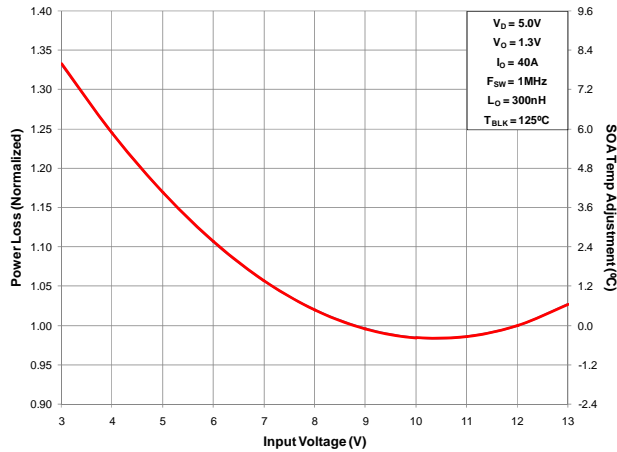

Figure 3 Normalized Power Loss vs. Input Voltage
- (Figure 3) Normalized power loss for input voltage \approx 0.98
- (Figure 3) SOA temperature adjustment for input voltage $\approx -0.5^{\circ}\text{C}$